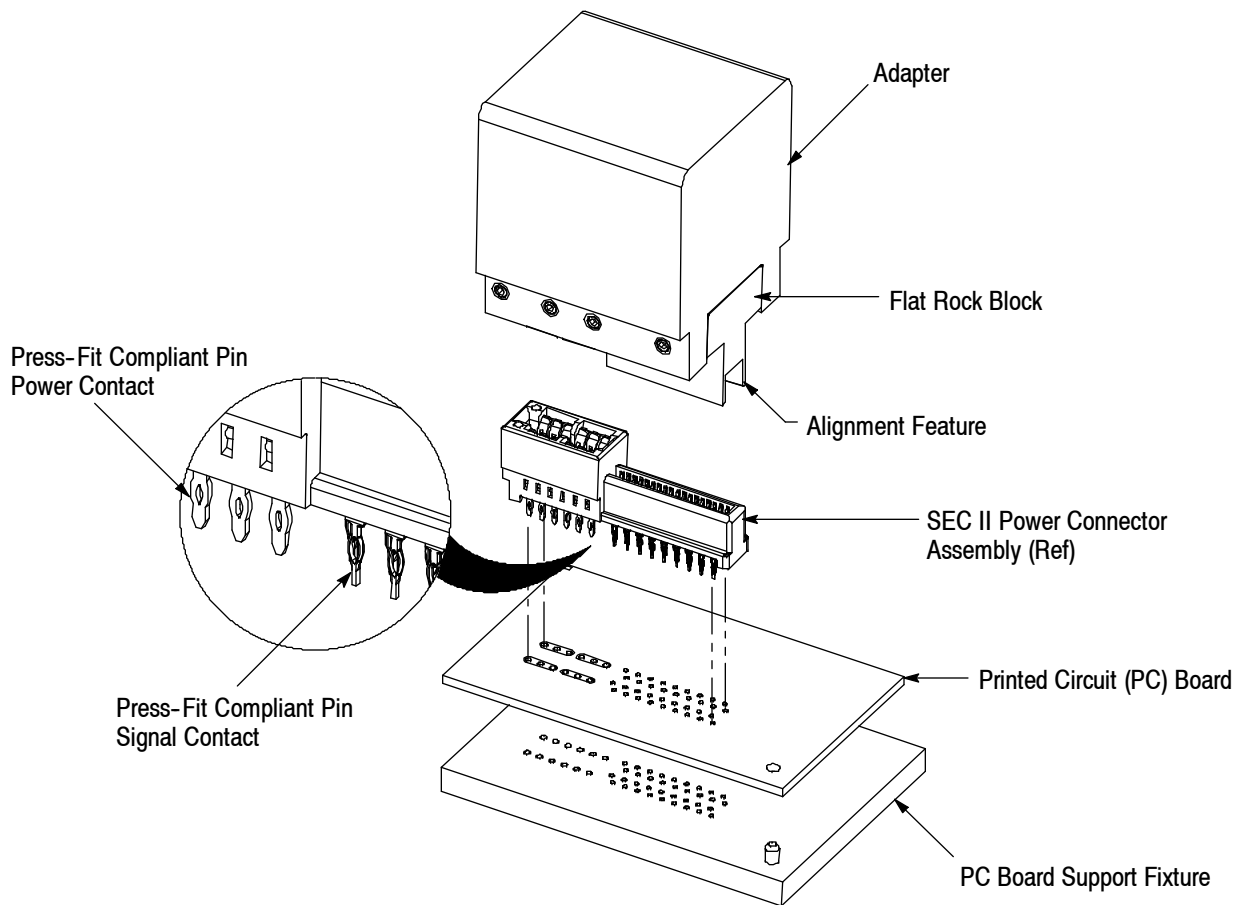
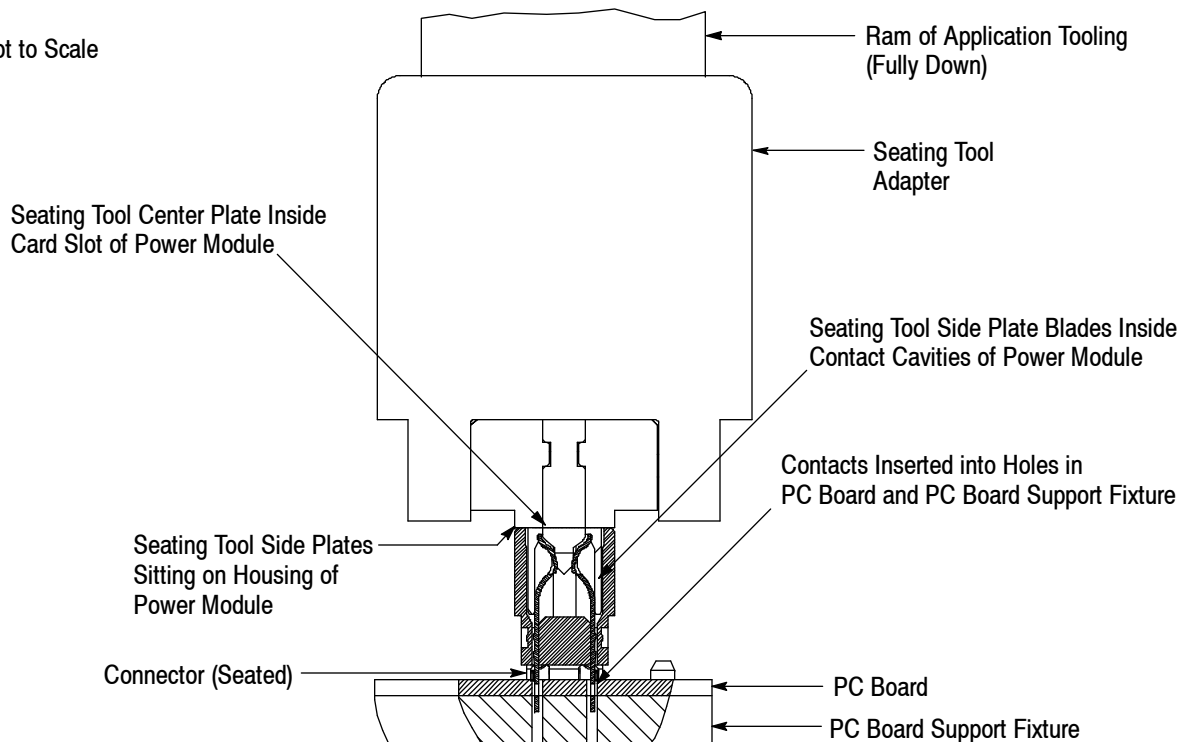

Figure 1
Figure 2
2. DESCRIPTION (See Figure 1)
The seating tool consists of an adapter and flat rock block (shown in Figure 1), and a center plate and two side plates (shown in Figure 2).
1. Place the pc board on the pc board support fixture. See Figure 2.
4. Center the seating tool (with the connector) under the ram of the application tooling. Lower the ram slowly until it just meets the seating tool. Verify alignment of pc board support, pc board, connector, and seating tool. See Figure 2.